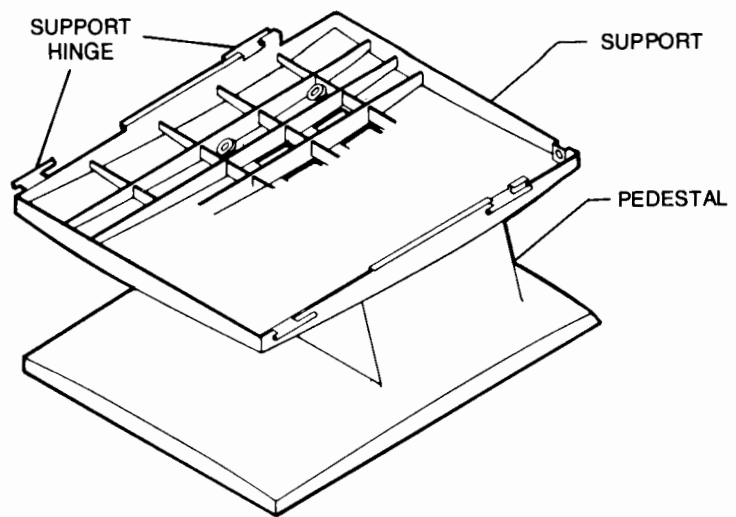

Figure 7-4. Support and Pedestal
1. Position mainframe onto support hinge (figure 7-4). Slide mainframe and support together until they are hinged.
1. Remove the four screws and washers securing support to pedestal (figure 7-4).